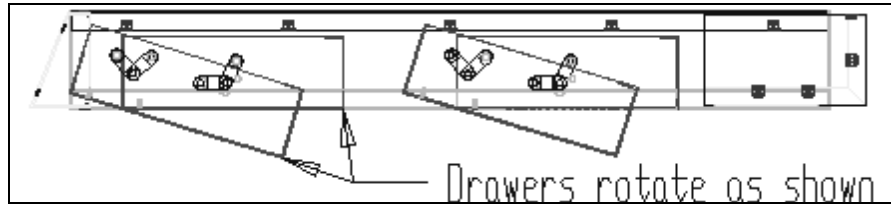

Figure 1 Side view of 048 console
- ✓ Use the (3) U-bolts, 5/16 washers, and locknuts provided to fasten the rear sliding assembly (now slid partially inside main body) to the rollbar.
6. Mount the drawers into the openings in the main body assembly. Be sure that the links inside the console are "resting" so that the holes line up with the holes in the body. It is important to place a piece of cardboard under the drawer to prevent scratching during installation. If the drawer is pushed up into the opening in the main body assembly in the approximate orientation of the open drawer in Figure 1, the holes in the body, link, and drawer will line up and (4) ¼-20x1/2" socket head cap screws can be installed using the 3/16" Allen wrench. Note, only fasten each drawer with the two links toward the front of the vehicle, **DO NOT** fasten the links toward the rear of the vehicle.
7. Mount stereo, CB, and/or speaker in drawer(s). Be sure to secure wires to side holes on the rear side of the drawer with (1) zip tie per drawer(provided) to ensure wires will not snag onto anything.
8. Attach the stereo to the drawer using the stereo support strap and (1) 10-32 flat washer and (1) 10-32 locknut.
9. Attach supply wires to stereo and/or CB wires. Route the wires by attaching them to the studs on the top of the console with (3) zip ties provided and (3) 10-32 locknuts. Use the remaining (3) zip ties to bundle wires together. **Warning!** Wires must be routed so that they do not interfere with the opening of the drawer or the operation of the cam. Be sure wires will not be pinched. Leave enough slack in the wires so that the drawers will be able to move freely. Refer to Figure 1 and note how the drawers move relative to the body.
10. Install the footman loop, you removed from the front windshield, into the nuts that have been pressed into the main body assembly just behind the rear drawer opening. Use the (2) 10-32x3/8 flat slotted screws and the screwdriver for installation. This footman loop will act as an anchor point for installing and securing a "Bikini" top. (If you were unable to remove the footman loop from the windshield and require it for a "Bikini" top footman loops can be purchased at most hardware stores.)
11. Notice that the 1/2" holes in the side of the main body will line up with the holes in the links when the drawer is in the open position and the links are resting against the studs in the console body, see Figure 1. Use (4) 1/4-20x1/2 socket head cap screws provided to fasten the link to the drawer. Tighten the screw all the way and then back it off 3/8 to 1/2 of a turn. Follow this procedure until the drawer is fastened and in place. **Warning!** The nuts inserted in the drawers are self-locking. The socket head cap screws will be difficult to screw in because of this feature. Do not cross thread screws.
14. Insert (8) 1/2" hole plugs in holes on main body.